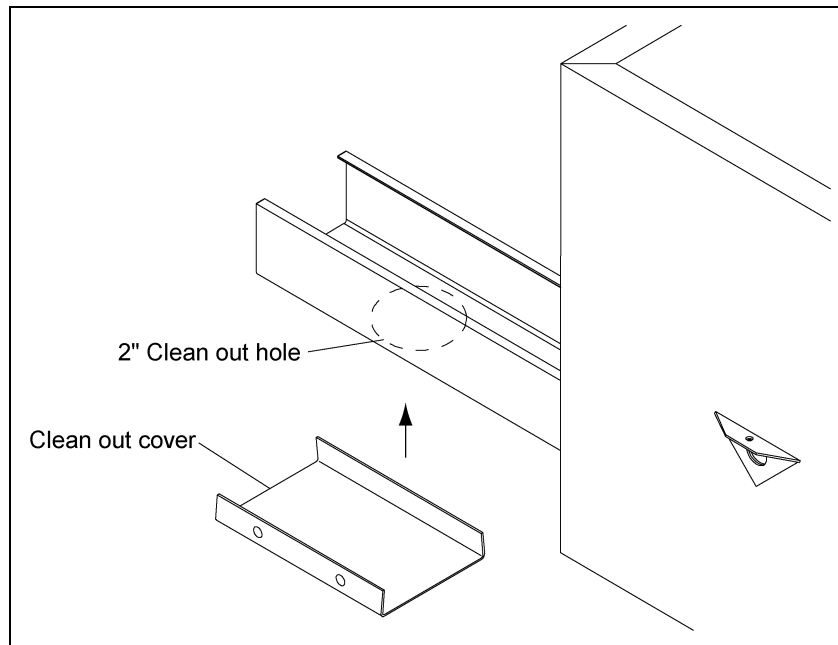

Figure 6J
The clean out cover should be located the section of trough nearest to the return side of the hopper. Using a 2" hole saw, cut a hole centered in the bottom of the trough as shown in Figure 6J. It is important to cut the hole as centered as possible in order to prevent a corner of the chain to catch on the hole which could possibly result in costly repairs. Place the clean out cover under the clean out hole and tighten the thumb screws to secure it in place.
Suspending the sections of feeder line near the center of the building requires a "switch-back" rigging of the drop cables to tie them to the main pull cables. Usually this will involve no more than four (4) drop cables, two (2) on each side of the winch. These will require longer drop cables, to be measured individually to match the placement of the extra "switch-back" pulley. The extra pulleys must be placed about 6" (15 cm) off the center line and beyond the reach of the 3-3/8" (85.7 mm) block and tackle pulley when the feeder is lowered to the floor. The drop cables are clamped 12" (30 cm) ahead of the extra pulleys and run horizontally from the extra pulley to the drop pulley and down to the feeder line. \(See Figure 6J on Page 21.\)